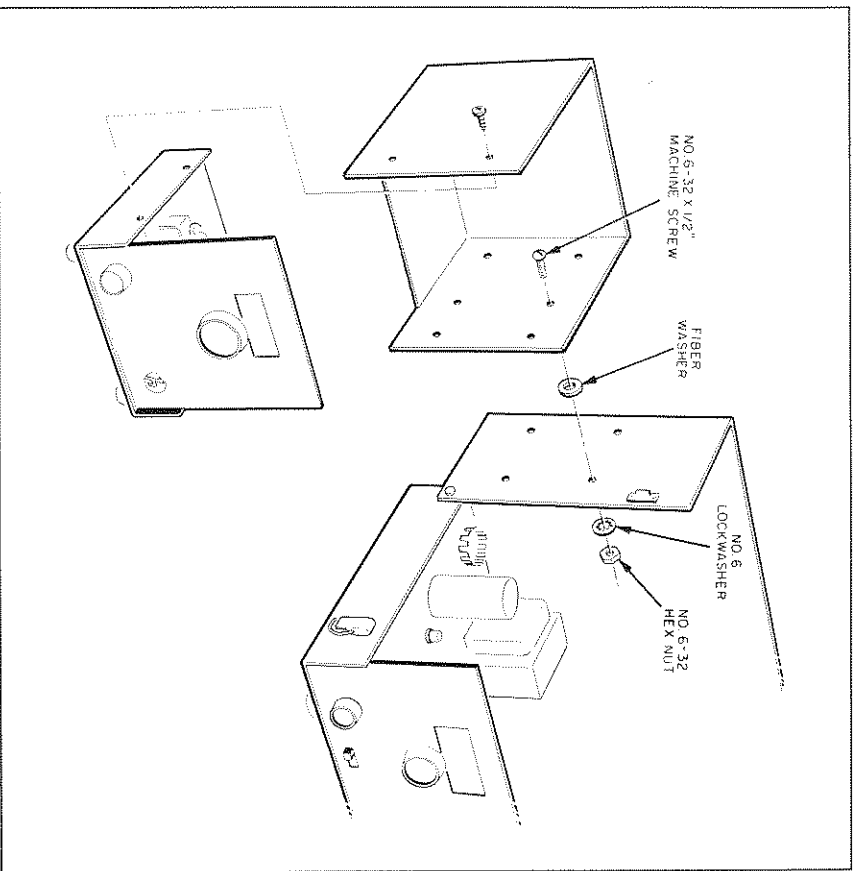

Figure 3. Typical Mobile Installation of VFO to Companion Transceiver.
3.4. TYPICAL MOBILE INSTALLATION (Figure 3)